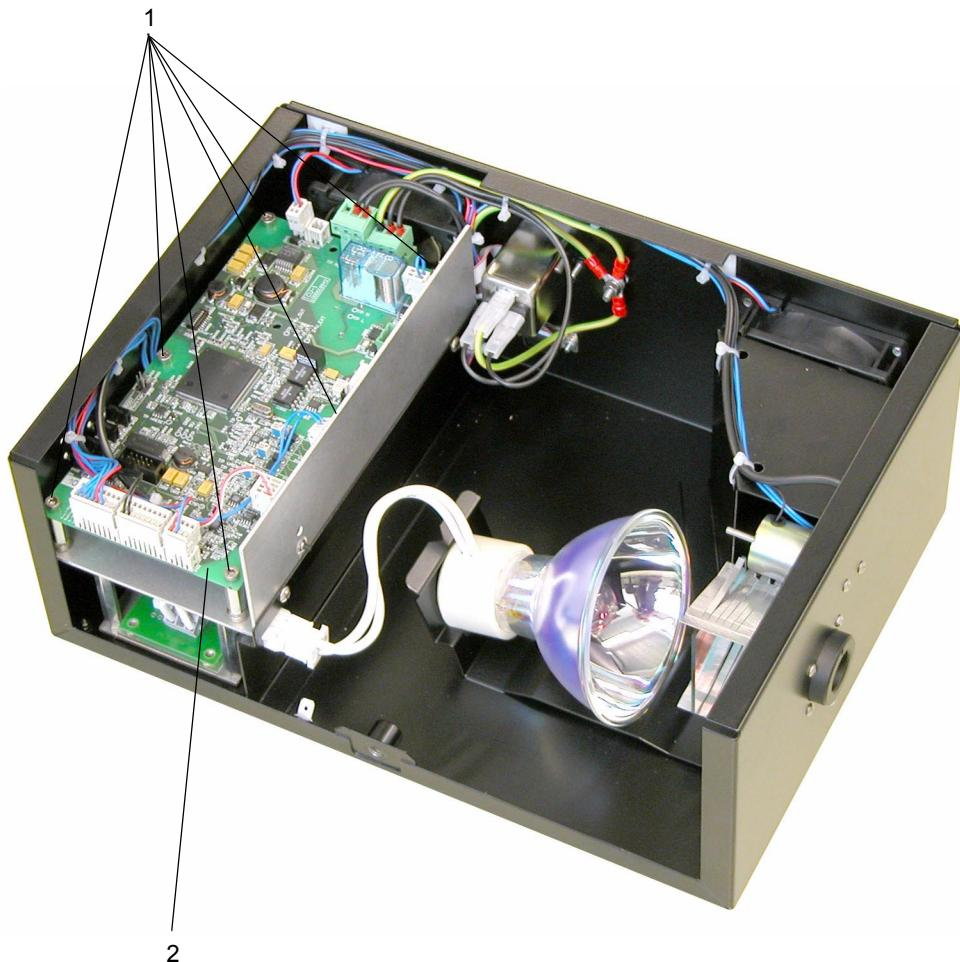

Fig. 22: Replacing the ICU
The ICU is shown in Fig. 22 (2) on 48.
7. **Fig. 22:** Disconnect all cables from the ICU mounting (**2**).